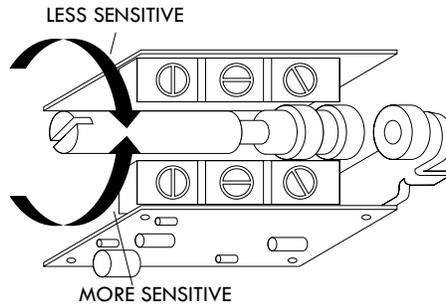

Figure A-48: Sensitivity adjustment
- Start the fan motor. If the vibration switch trips on start-up, allow the machine to stop. Turn the sensitivity adjustment 1/4 turn clockwise (see Figure A-48): Depress the reset button and restart the machine. Repeat this process until the unit does not trip on start-up.